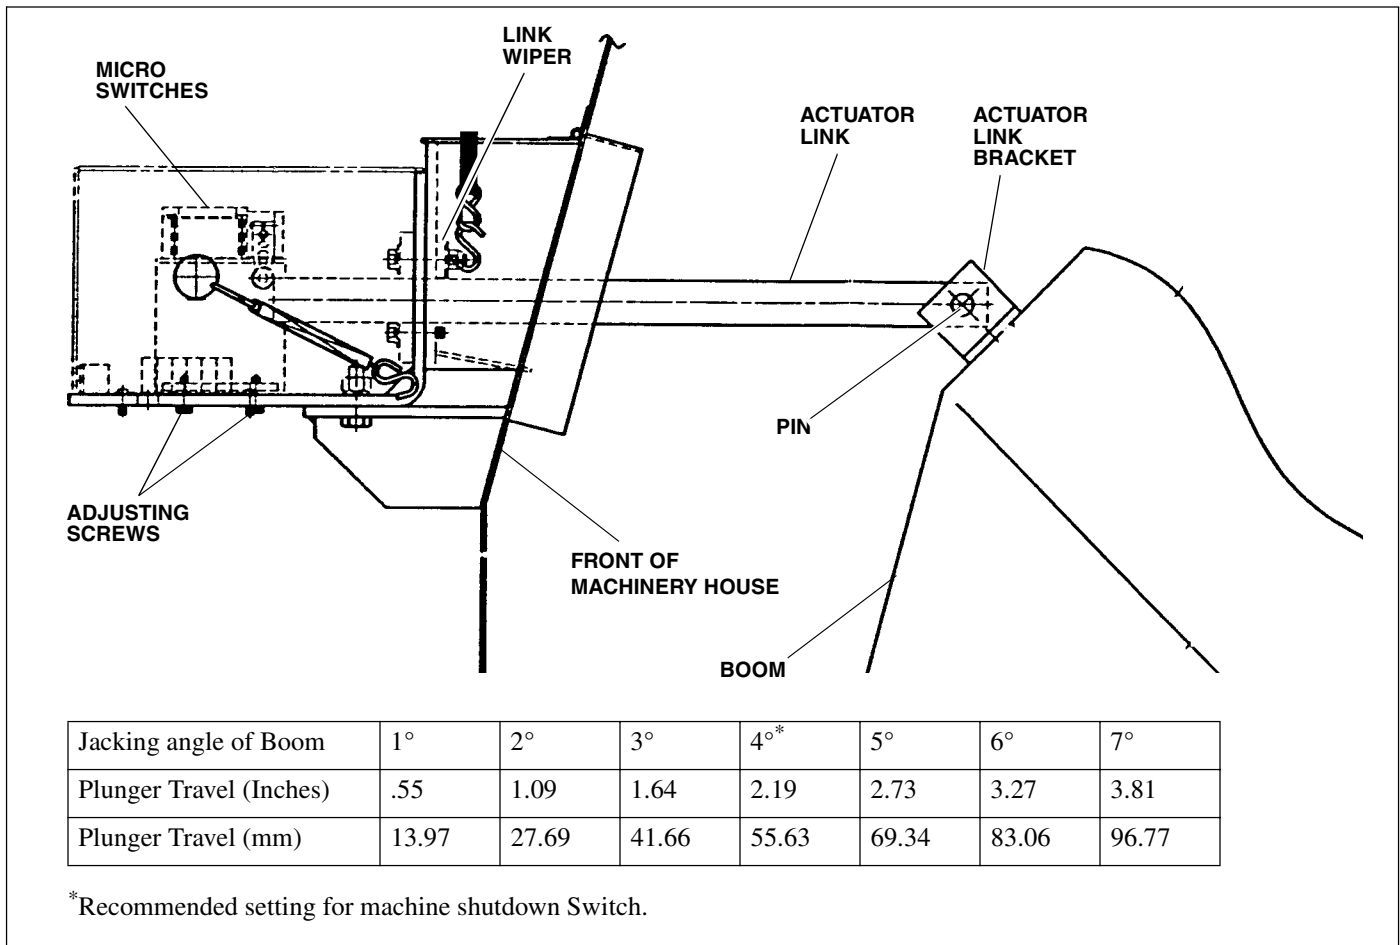

Figure 5-8. Boom Limit Switch Assembly (100J6493F4)
The boom limit switch assembly, shown in Figure 5-8, is mounted behind the machinery cab front wall. The actuator link
Each of the limit switches (see Figure 5-8) can be adjusted independently of the other even though only one link activates both switches.
It is recommended that the boom limit switch settings be as follows. However other settings can be set if so desired (see Figure 5-8).
To adjust the limit switches, proceed as follows (see Figure 5-8):
3. Adjust the shovel shutdown switch to the 4° measurement listed in the table in Figure 5-8 (4° recommended).